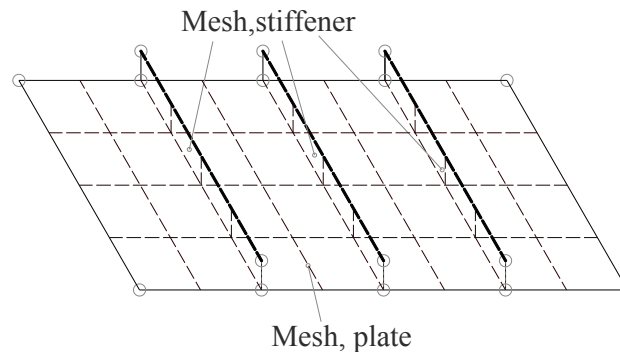

Figure 15. Sketch of meshed strake
Step 5: Meshing, see Figure 15